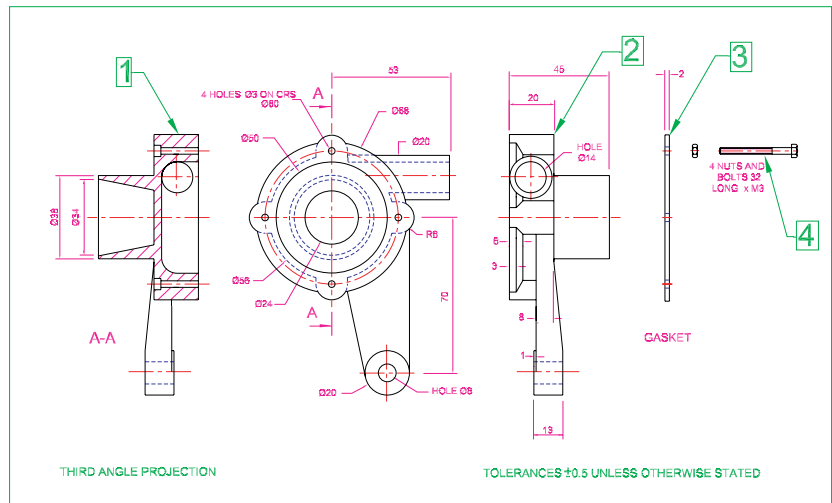

Fig. 21.9 Second example –
4. In the drawing, in response to prompts at the command line, add multi-leaders one after the other to the drawing in Fig. 21.4, numbering the parts **1** to **4**. See Fig. 21.9.